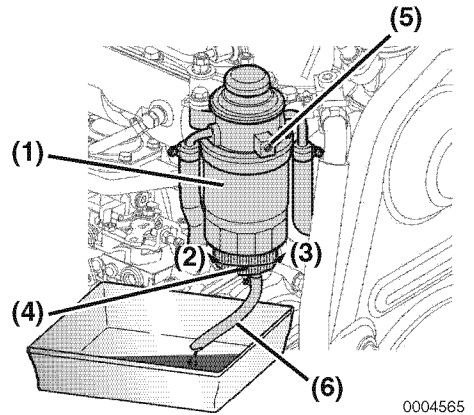

Figure 11
3. Attach a tube (**Figure 11, (6)**) to the drain plug (**Figure 11, (4)**).
4. Loosen the drain plug (**Figure 11, (4)**) at the bottom of the fuel filter / water separator by turning counterclockwise and drain off any water or sediment.